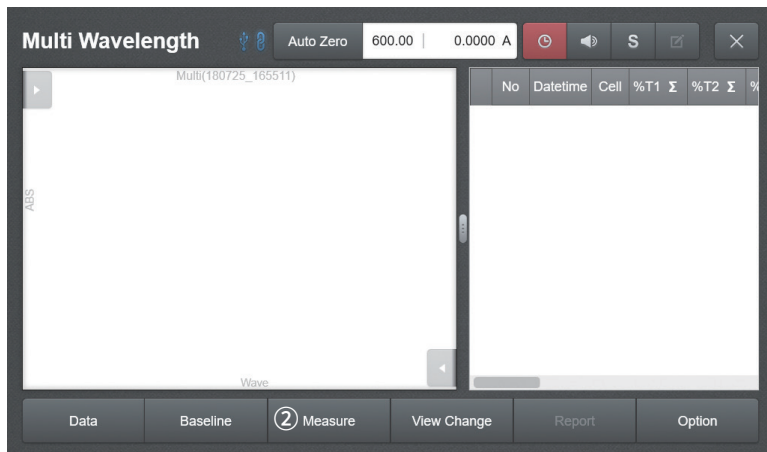

Fig. 3.17
4. [Fig. 3.17] Insert the sample into the pertinent cell holder and press ② **Measure** to take measurements.
5. [Fig. 3.17] If there a sample to add, insert a sample to measure into the pertinent cell holder and press ② **Measure** to take measurements.
7. Click [Figure 3.17] **Report** to check or print the measurement data in report form.